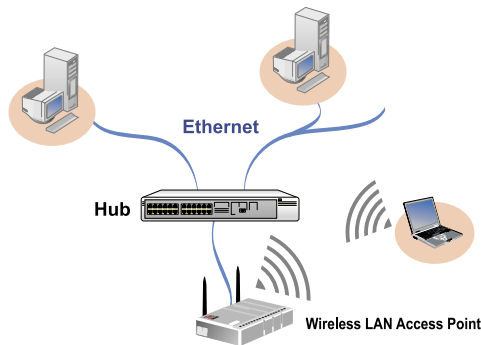

Figure 5.
If you don't want to mess with cables, you can create a wireless network instead. In a wireless network, each computer is equipped with a special wireless network adapter that has an antenna. Thus, the computers can communicate with each other without the need for cables. Figure 5 shows a typical network with three computers. You can see that all two computers are connected with a network cable to a central network device called a hub (a common connection point for devices in a network), and two computers are running wireless connections to a Wireless Access Point (Wireless version of a hub).
**LAN stands for Local Area Network** ; a LAN network is the type of network that all small businesses with just one office would use. It covers a small region of space, typically a single building, and they are usually run and maintained by the business. Figure 5 is a typical example of a LAN network.